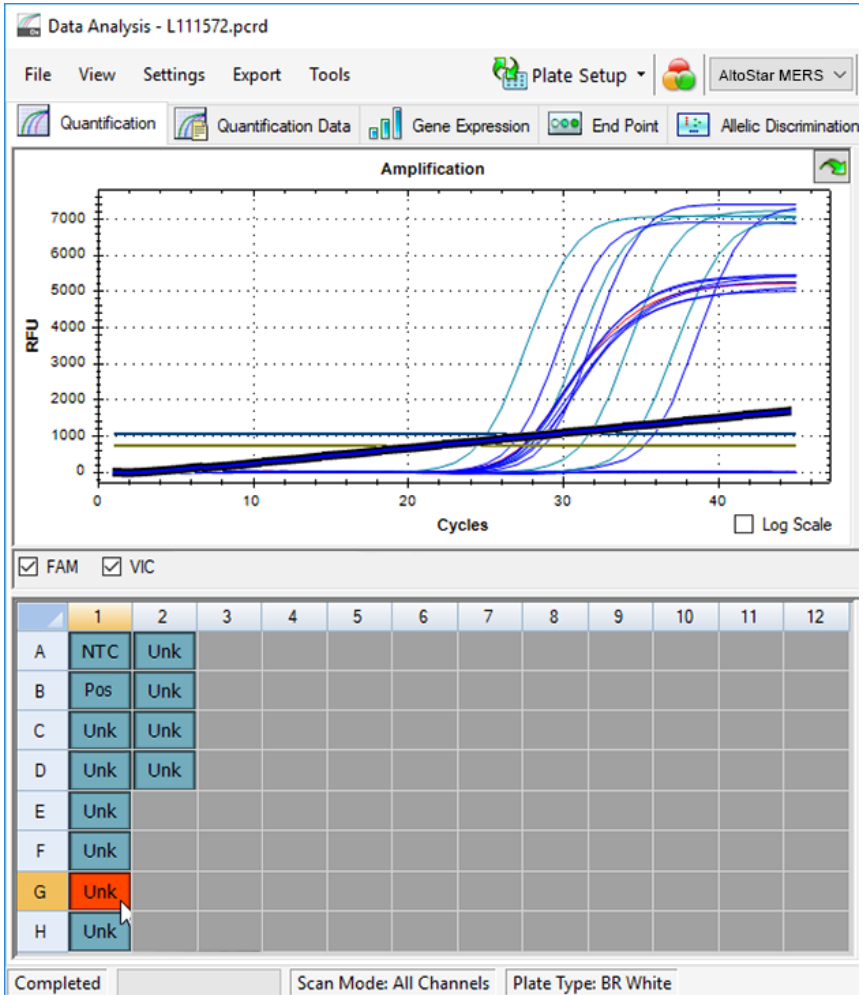

Figure 6: Data Analysis window: irregular PCR signal
- Identify wells with irregular PCR signals (linear signal increase, signal spikes, etc.) in any of the FAM™ [MERS-CoV (target upE + N gene respectively orf1a)] and the VIC™ (IC) detection channels (see figure 6).